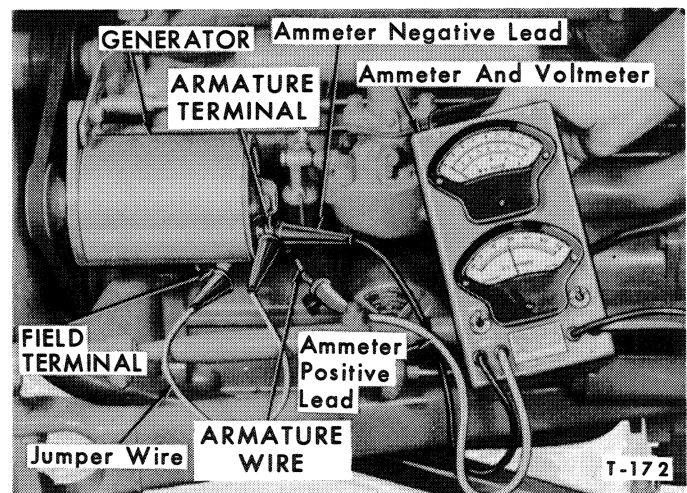

Figure 3—Generator Output Test Connections
1. Disconnect the armature (red) wire from the terminal on the generator. Connect a jumper wire across the armature and field terminals as shown in Figure 3.
3. Connect the other ammeter lead to the terminal of the armature wire as shown in Figure 3.